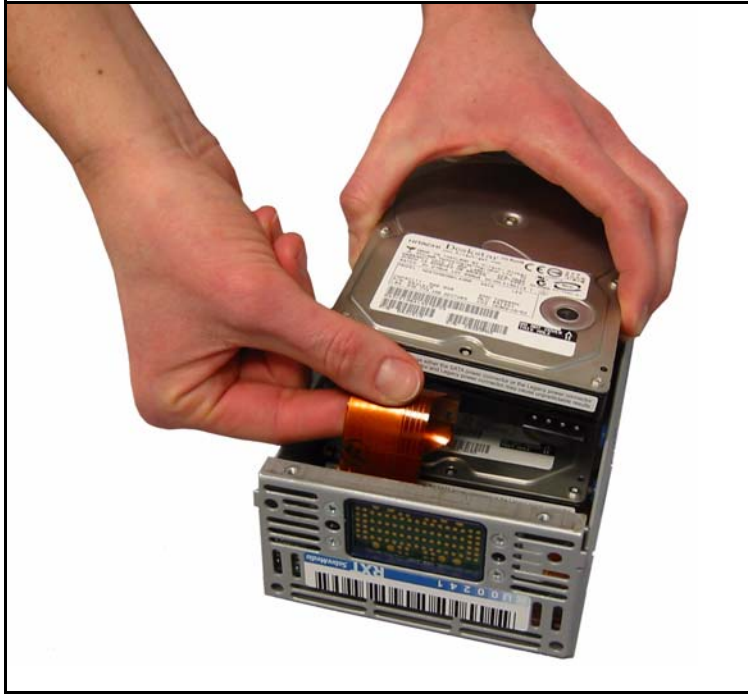

Figure 3-12 Disconnecting the disk drive connector.
7. Disconnect the disk drive connector (Figure 3-12) from the loose drive, then remove the disk drive from the pack.